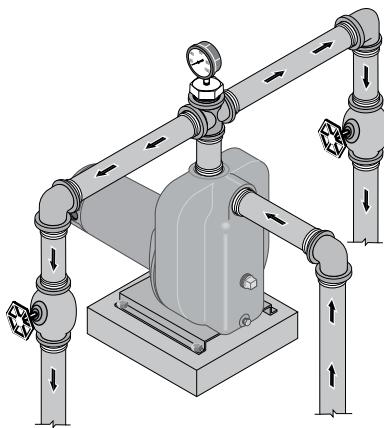

Figure 3 – Multiple Discharge
This pump is designed for a pond, cistern or well points. Pump discharge can be divided to supply two (2) or more sprinkler systems. A suggested multiple discharge to service is shown in Figure 3.